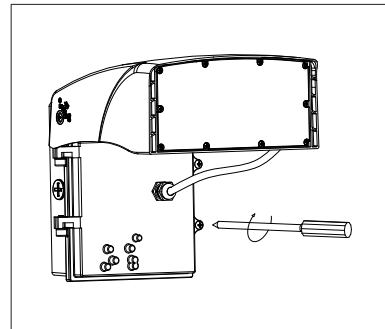

Figure 12
STEP 8: Well organize the line and tighten the screws of the lamp base (Figure 12 & Figure 13)